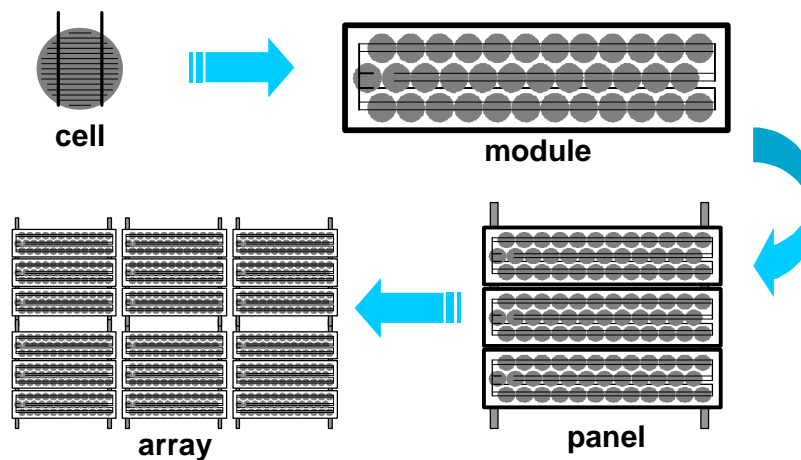

Figure 2. Photovoltaic cells, modules, panels and arrays.
- A. Photovoltaic cells are connected electrically in series and/or parallel circuits to produce higher voltages and/or currents. Photovoltaic modules consist of PV cell circuits sealed in an environmentally protective laminate, and are the fundamental building block of the complete photovoltaic generating unit. Photovoltaic panels include more than one PV module assembled as a pre-wired, field-installable unit. A photovoltaic array is the complete power-generating unit, consisting of any number of PV modules and panels (Figure 2).